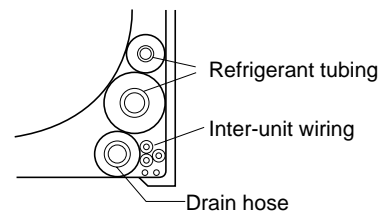

Fig. 3-49
- (5) Assemble the refrigerant tubing, drain hose and inter-unit wiring as shown in Fig. 3-49.